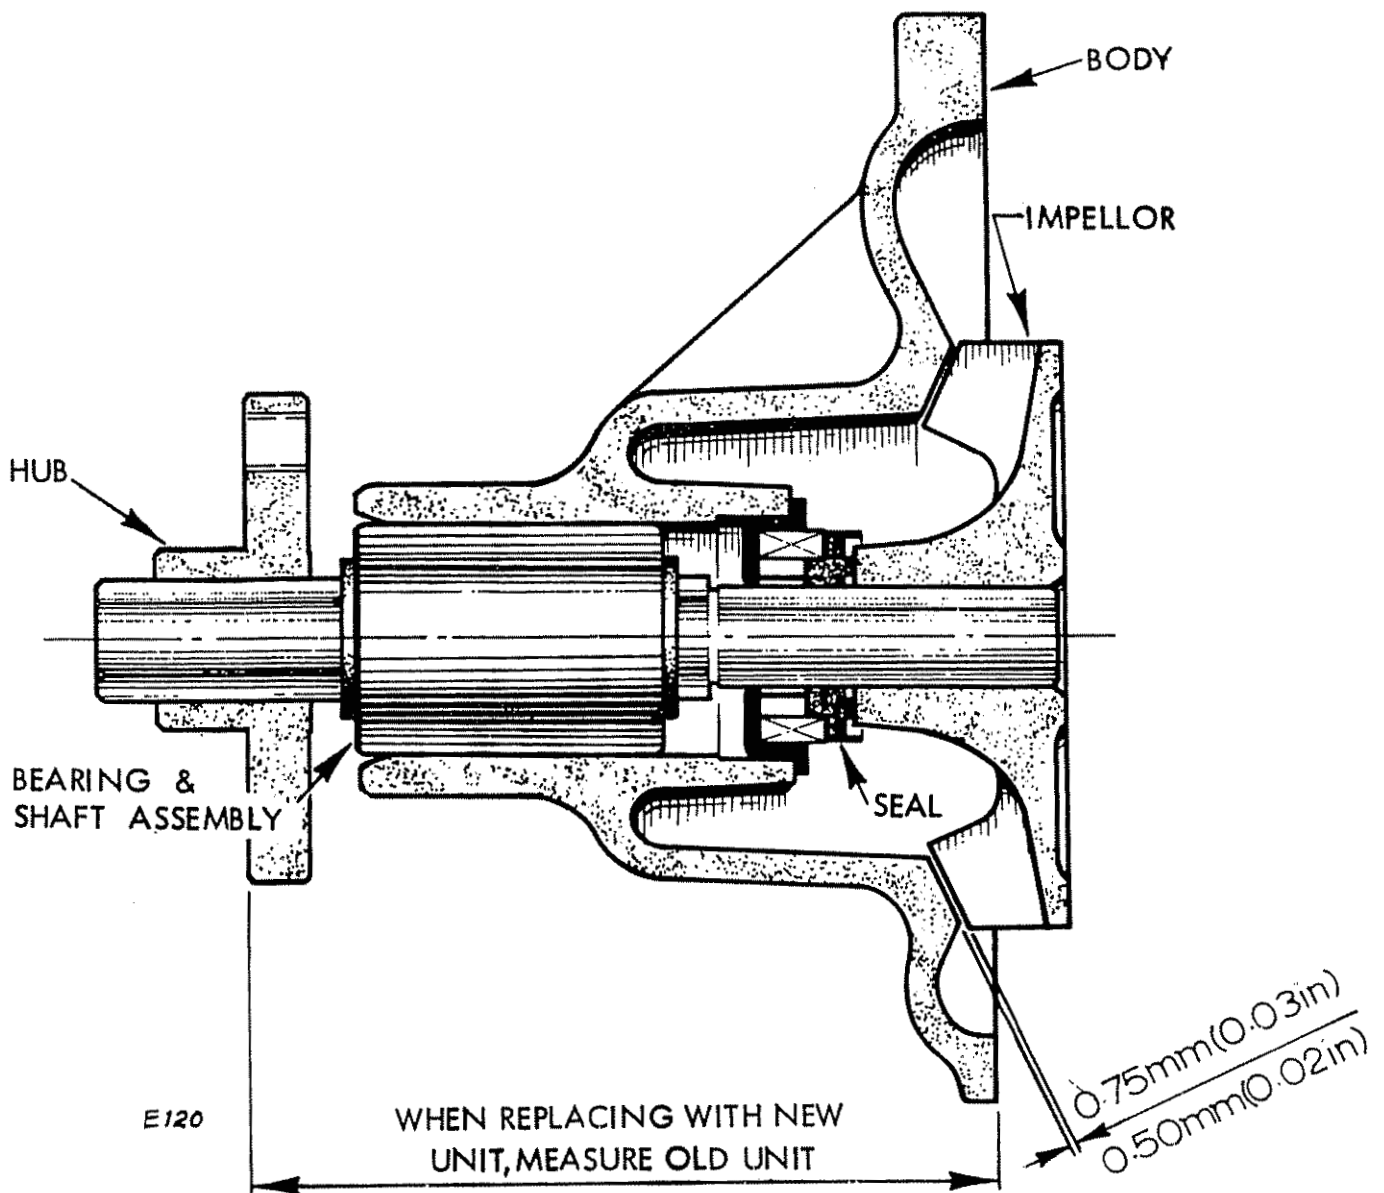

Fig.19 Water pump assembly
1. Measure the distance between the body mounting surface and the hub mounting surface of the old water pump, see figure 19.
3. Support the pump shaft while pressing on the hub and also check the impeller to housing clearance, see figure 19. Refit the pulley.